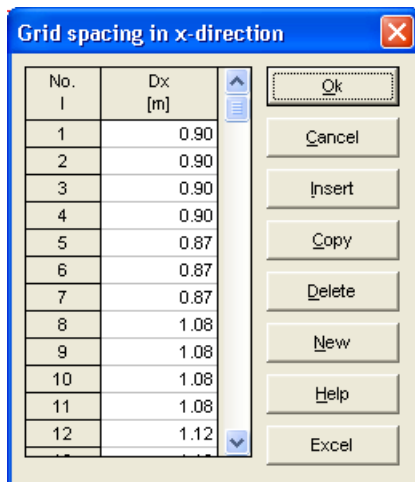

Figure 1-13 "Grid spacing in x-direction" list box
- Click the button "Grid spacing". "Grid spacing in  $x$ -direction" list box appears, Figure 1-13. In this list box the spacing width can be entered individually for every space